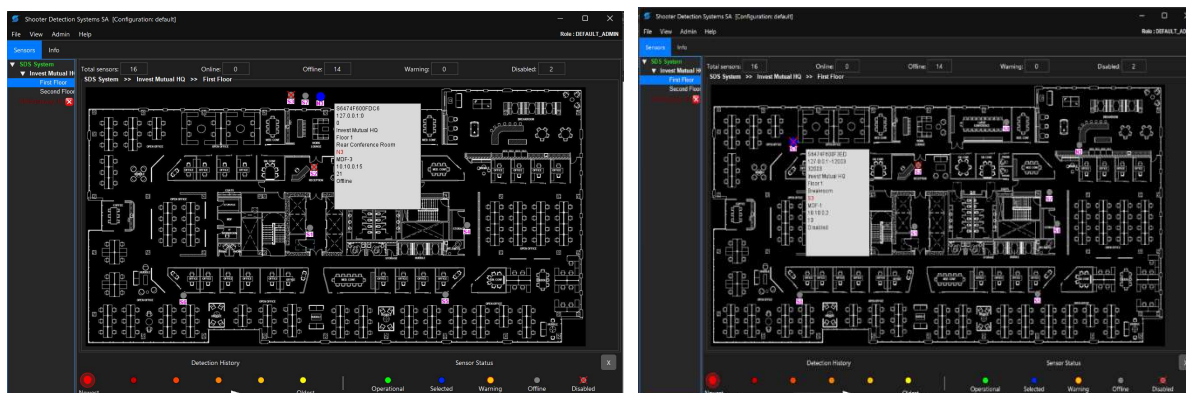

Figure 26 – Sensor Placement
2. Single click (and release) on the sensor icon. The icon will turn blue. Click and hold, drag and drop the icon into its location. See Figure 26 (l). When released the icon will automatically be de-selected, repeat the process if you need to move it again.
3. Repeat for all floorplans and sensors. See Figure 26 (r).